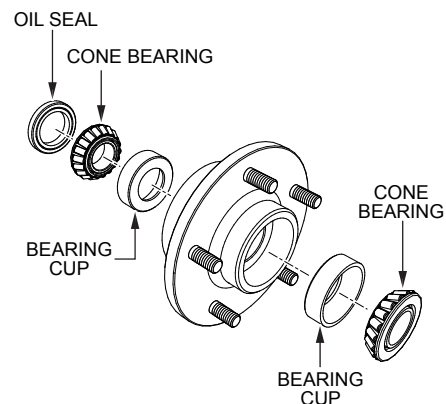

Figure 35. Wheel Hub and Bearings
1. After **every 3 months** of operation, remove the hub dust cap and inspect the wheel bearings (Figure 35). Once a year, or when required, disassemble the wheel hubs remove the old grease and repack the bearings forcing grease between rollers, cone and cage with a good grade of high speed wheel bearing grease (never use grease heavier than 265 A.S.T.M. penetration ("No. 2.")).
2. Fill the wheel hub (Figure 35) with grease to the inside diameter of the outer races and also fill the hub grease cap. Reassemble the hub and mount the wheel. Then tighten the adjusting nut, at the same time turn the wheel in both directions, until there is a slight bind to be sure all the bearing surfaces are in contact.